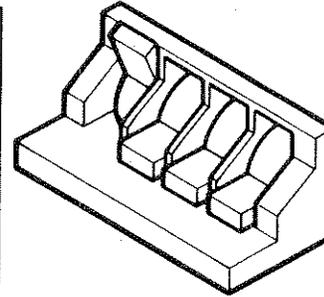

Figure 5: Address Switch Setting
- Hewlett-Packard sets your disc drive address at 0 (illustrated in Figure 5).
- Set the four small switches of the address switch to one of the addresses illustrated in Figure 5.